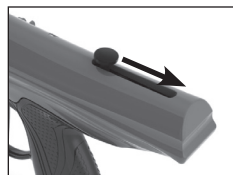

Figure 2: Cocking the Marker
- As shown in Figure 2, cock the marker by sliding the bolt handle all the way back until it locks into place. Always keep marker in the cocked position when the air/CO₂ supply is attached to the marker. This helps prevent an accidental discharge.